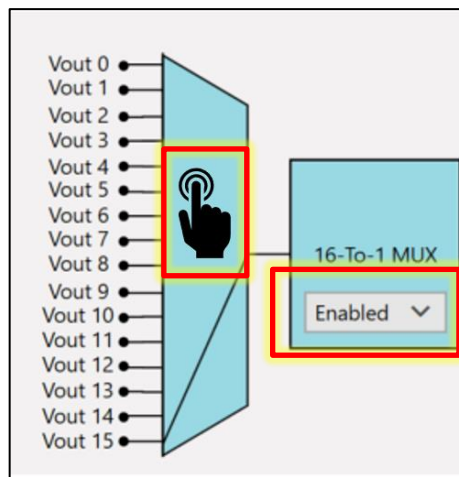

Figure 21 16-to1 MUX
4. On the Multiplexer Setting of the software as shown in Figure 21, 16-to-1 MUX, choose “Enabled”. Choose Vout 15 by tapping on the space as indicated on Figure 21 until the line goes down to Vout 15.